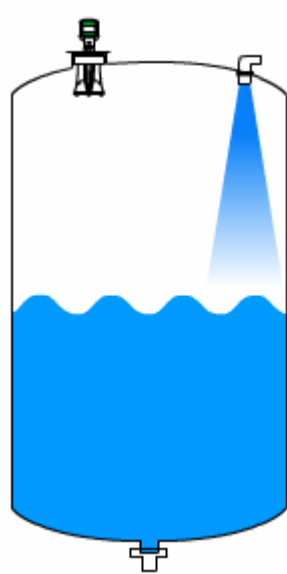

Figure 5 Installation Point
- ① The scanner should be installed as far away as possible from the inflowing material, as shown in *Figure 5*.